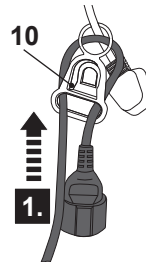

Fig. 4
1. Double the extension cord back, about 30 cm from the end and lead the loop through the slots of cord retainer (10) (Fig. 4).